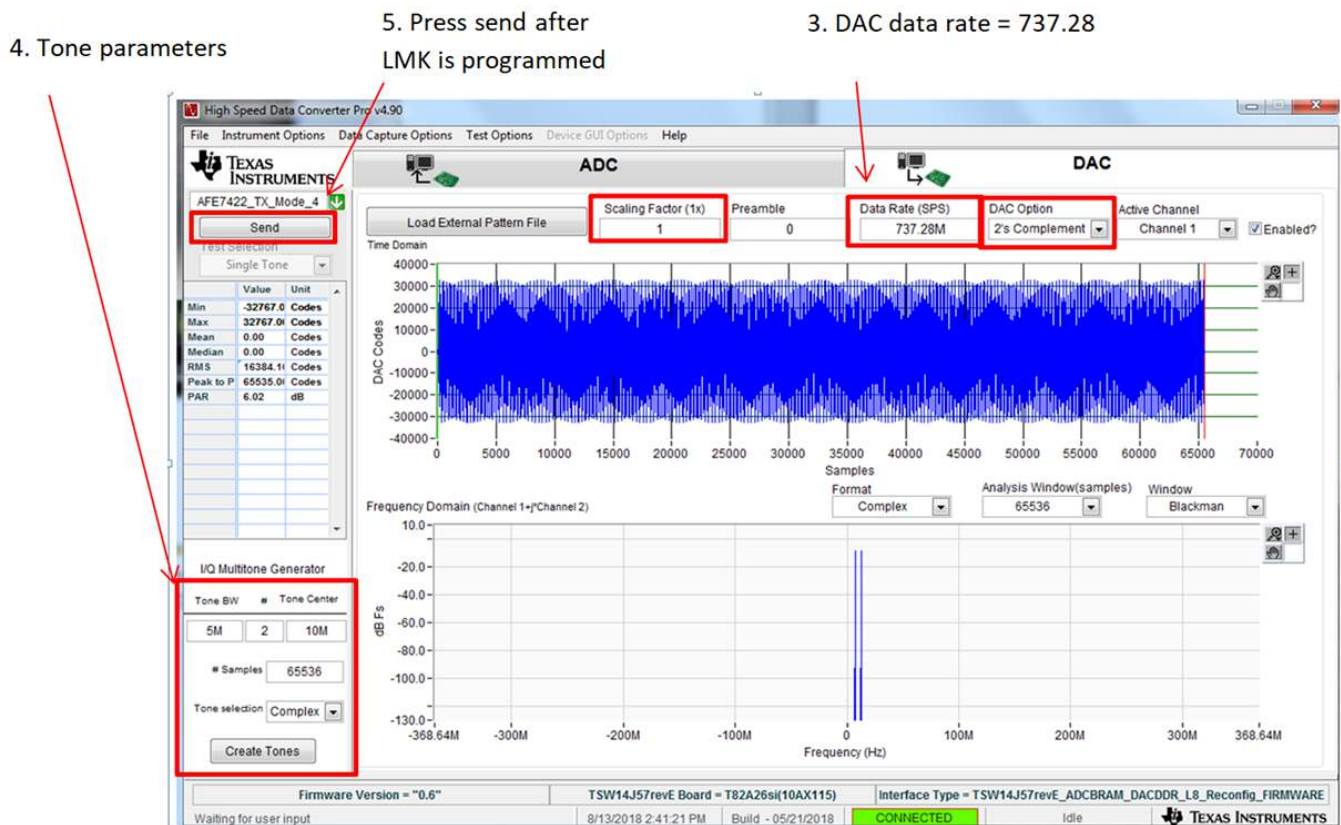

Figure 5. HSDC Pro DAC Tone Setup
2. Select the ini file from the drop-down menu, and then select the *AFE74xx_TX_Mode_4* file, as shown in Figure 5).
4. Enter the following parameters to generate two tones, as shown in Figure 5.
- b. Navigate back to HSDC Pro and click *Send*, labeled as 5 in Figure 5.
8. Navigate back to HSDC Pro and click *Send*, labeled as 5 in Figure 5